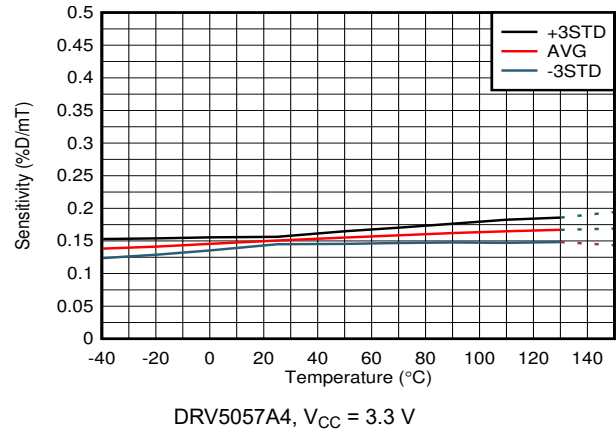

Figure 6-20. Sensitivity vs Temperature
(1) B is the applied magnetic flux density.
(2) See the Section 7.3.2 section.
(3) B_L describes the minimum linear sensing range at 25°C taking into account the maximum V_Q and sensitivity tolerances.
(4) S_{TC} describes the rate the device increases Sensitivity with temperature. For more information, see the Section 7.3.4 section and Figure 6-7 to Figure 6-20.
(5) Product Preview data only for DRV5055Z1 - DRV5055Z4 device options.